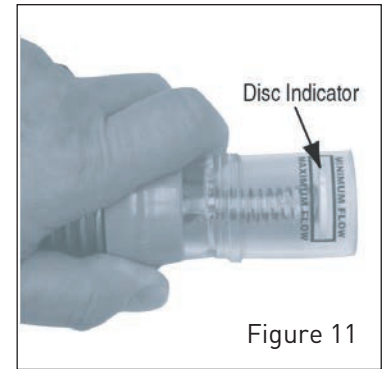

Figure 11
4. Turn the regulator valve adjustment knob clockwise to increase flow or counterclockwise to decrease flow, until the disc indicator in the flow gauge settles between “Maximum” and “Minimum” flow. See Figure 11 .